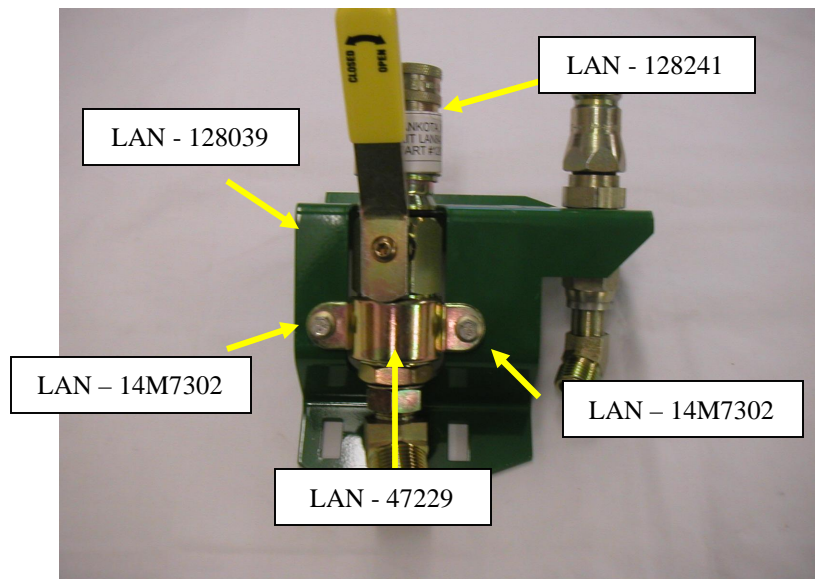

Figure 22
11. Attach large quick coupler (LAN – 128241) to bracket using two Yokes (*LAN – 47229), two Bolts (*LAN – 14M7302) and two Nuts (*LAN – 14M7303). (See Figure 22)